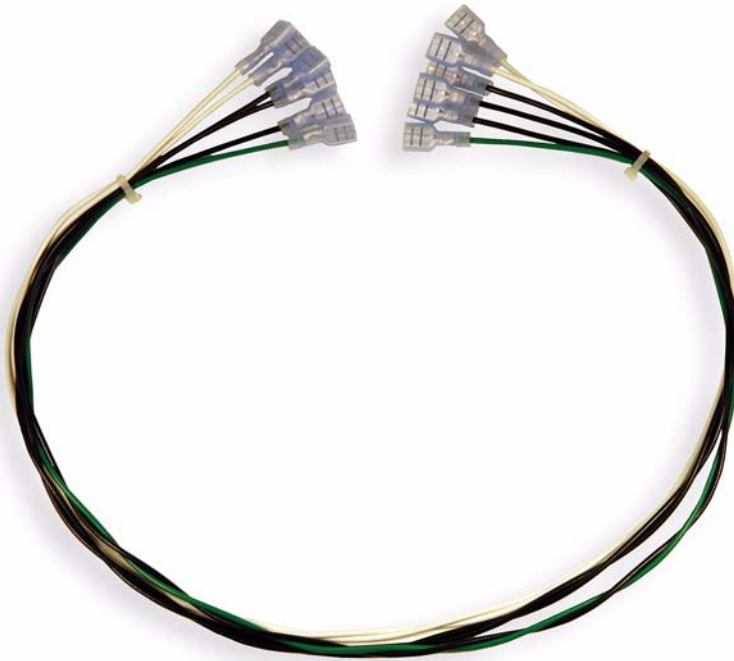

Figure 1. Motor Cable
- Twenty-four-inch motor cable with six wires of 16 AWG and insulated female spade connectors (Figure 1 on page 3)